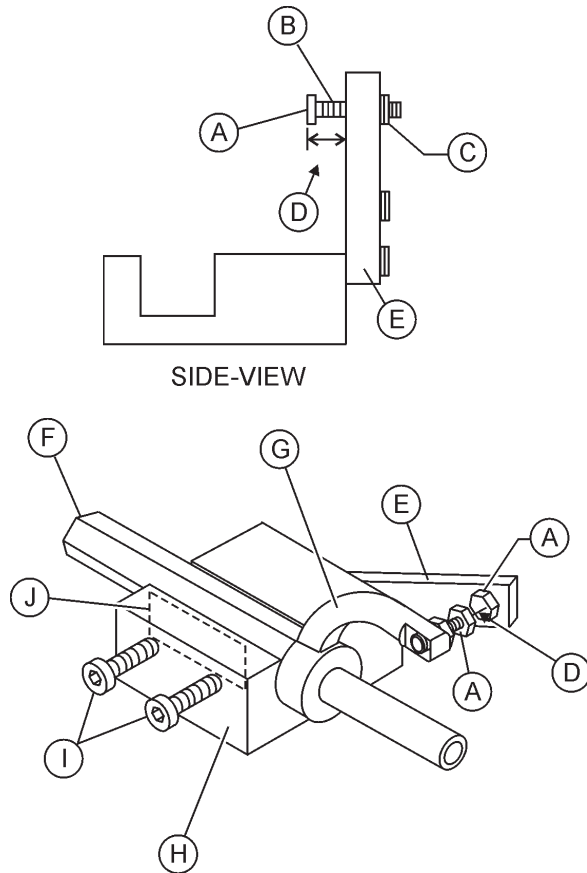

Figure 45. Trowel Arm Adjustment Tool
Shown in (Figure 45) is the adjustment fixture with a trowel arm inserted. As each trowel arm is locked into the fixture, the arm bolt is adjusted to where it contacts a stop on the fixture. This will consistently adjust all of the trowel arms, keeping the finisher as flat and evenly pitched as possible.
3. Unscrew the locking bolts on the adjustment tool, and place the trowel arm into the adjustment fixture channel (Figure 45). A **thin shim** may be required to cover the blade holes on the trowel arm. Make sure to align the trowel adjustment bolt with the fixture adjustment bolt.